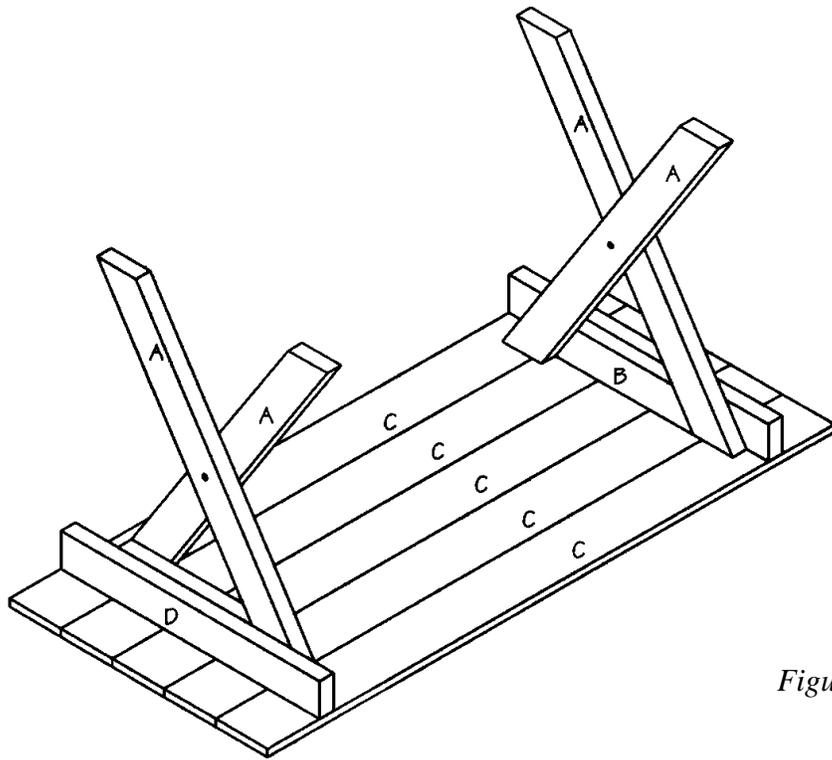

Figure 6
1. Turn the Top assembly (Tops [C] and Top Supports [D]) upside down on a level surface. Position one X-shaped assembly so that the Leg Support (B) is flush against the inner surface of the Top Support (D), as shown in *Figure 6*. Apply glue to the meeting surfaces, and screw through the Top Support (D) into the Leg Support (B), using two 2-1/2-inch wood screws. This will hold the assembly together temporarily.